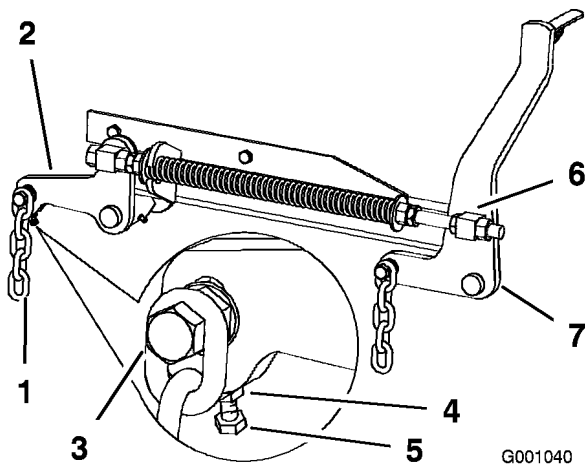

Figure 70
7. If the measurements at positions **B** or **C** are not correct, loosen the bolt attaching the rear chain to the rear support arm (Figure 70).
a measurement of 3-1/8 to 3-1/4 inches (Figure 70).
7. Loosen the front swivel jam nuts, at the front of the right and left swivels, approximately a 1/2 inch (13 mm) (Figure 70).
8. Adjust the lift nuts on both the left and the right side of the machine to achieve **1/4 to 3/8 inch (6 to 10 mm) lower in front at A than in the rear at B** (Figure 70).